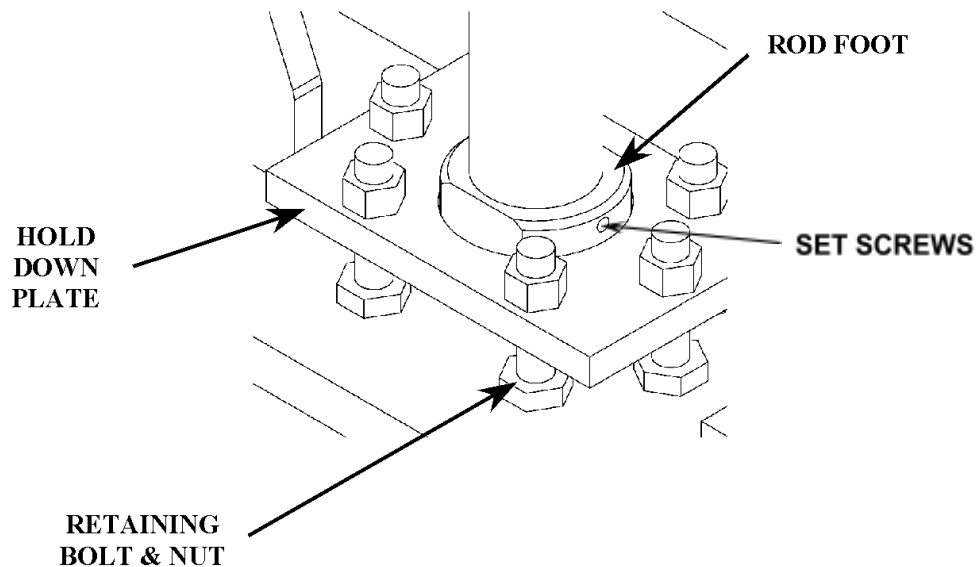
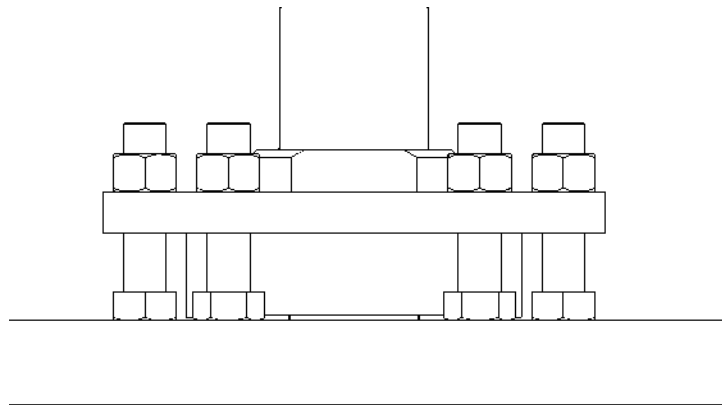

FIGURE 2 – retaining plate assembly
FIGURE 4 – note the space between the rod foot and the top jaw beam.
- The rod foot needs to be centered within the hold down plate. See figure 2.
16. Replace the nuts to the hold down plate. Do not over torque these nuts! A maximum torque of 25 lb-ft is suggested. The end of the cylinder rod will touch the jaw beam, but the rod foot will not. The rod foot is designed to float within the hold down plate to adjust for alignment. It should be centered in the hole of the hold down plate as explained in figure 2 above. See figure 4 for a front view of the floating rod foot design.